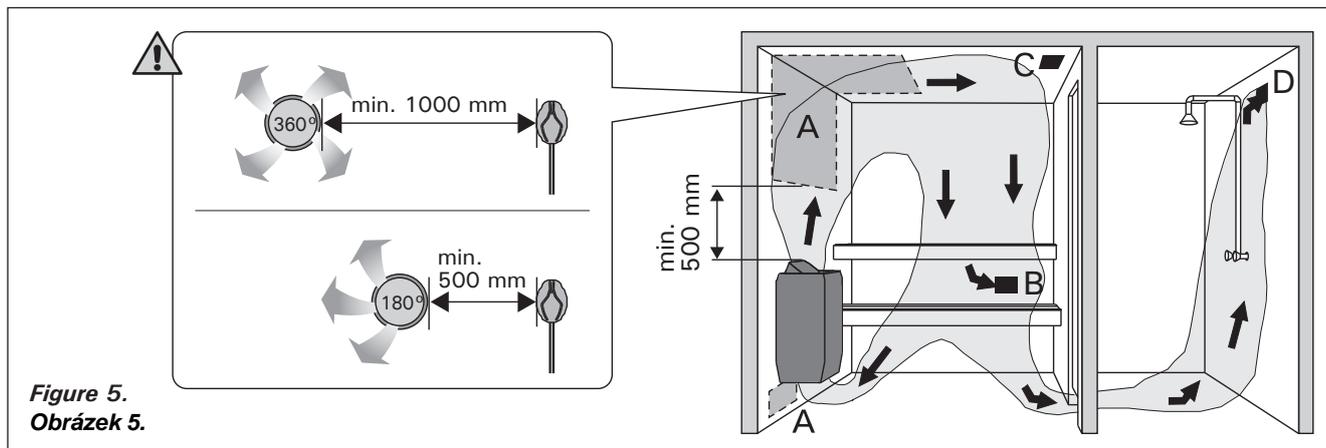

Figure 5.
The air in the sauna room should change six times per hour. Figure 5 illustrates different sauna room ventilation options.
**⚠ Do not place the supply air vent so that the air flow cools the temperature sensor. Figure 5.**